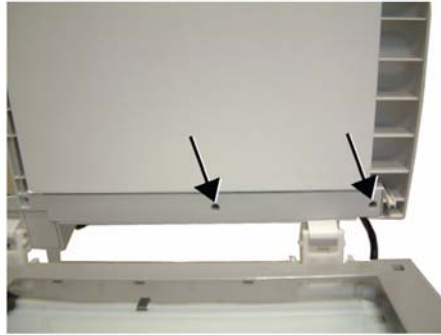

Figure 6
5. Open the ADF cover, unscrew the two mounting screws of the cable cover and remove the cable cover, Figure 6.